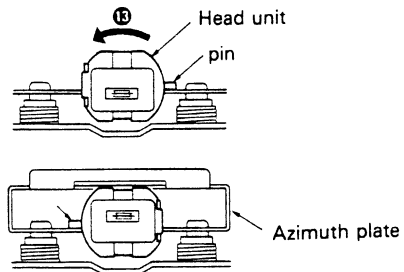

Fig. 37
7. Because the pin in the sector gear is in the notch in the slide plate at this time, the sector gear is in the notch indicated by arrow ⑫. Because the sector gear is meshed with the head unit gear, the head unit rotates half a revolution in the direction indicated by arrow ⑬. Figure 37 is view of this from tape side. When the head unit has rotated half a revolution, the catch on the head unit contacts the azimuth plate and pressure from the spring causes it to stop. The above operations change the tape direction from FWD to REV, which, as described in "Play Mechanism", causes the head to move forward, starting tape reproduction in the REV direction.